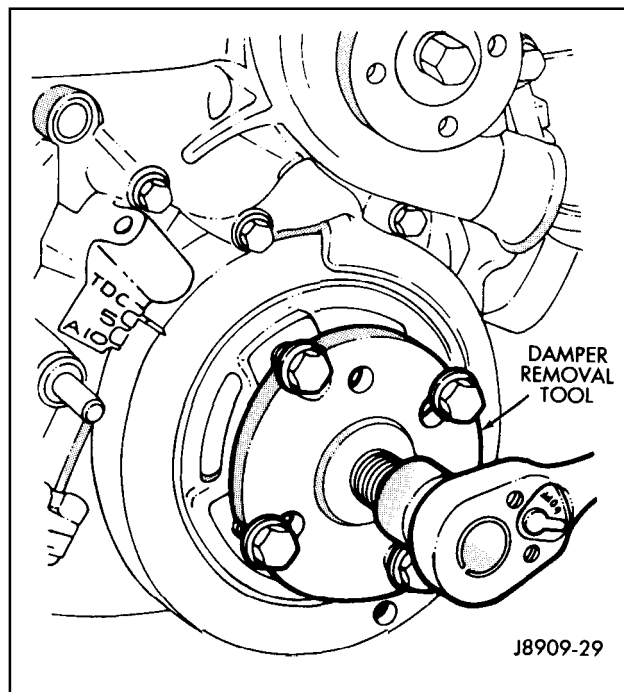

Figure 7-5
7. Use a vibration damper removal tool to remove the damper from the crankshaft (Figure 7-5).